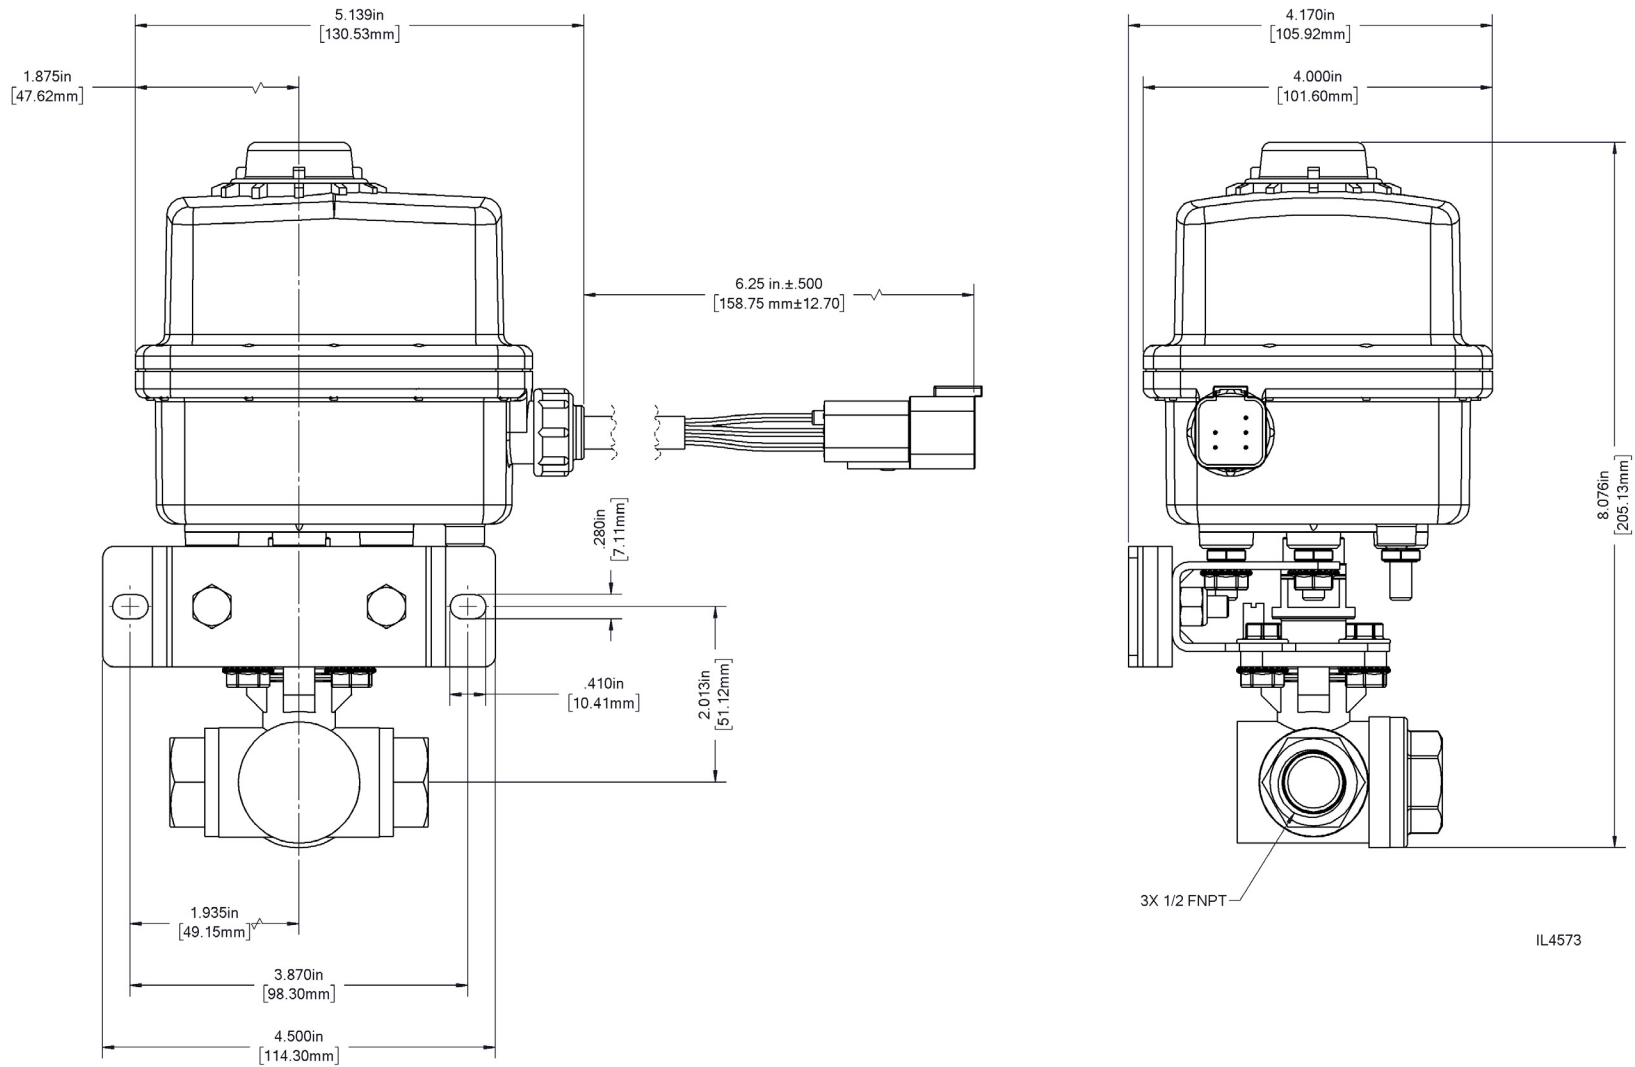

Figure 7
- 4 Mounting holes—Installer located and drilled. Refer to: **"Determining the Electric Valve Location"** on page 10 and **Figure 7**